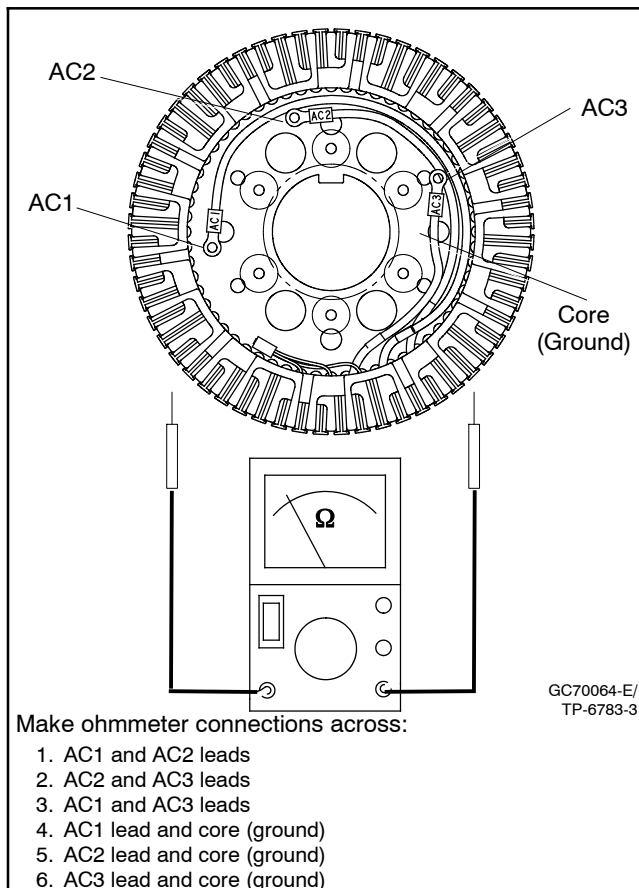

Figure 7-9 Exciter Armature Continuity Check
4. With an ohmmeter, check for continuity across the AC1/AC2, AC2/AC3, and AC1/AC3. Check for continuity across AC1/core (ground), AC2/core (ground), and AC3/core (ground). See Figure 7-9. See Section 1.4, Specifications, Electrical Values for exciter armature resistance values.